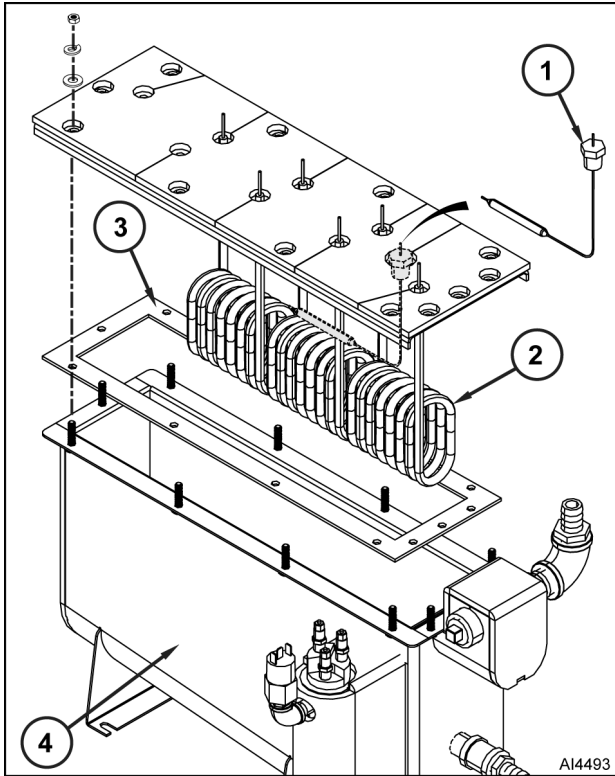

Fig. 25
- Position high-limit thermostat (1, Fig. 25) capillary tube to facilitate heating element removal. Avoid creating sharp bends or kinks in the capillary tube.
- Remove nut, lock washers, and flat washers that secure heating element (2) to tank (4).